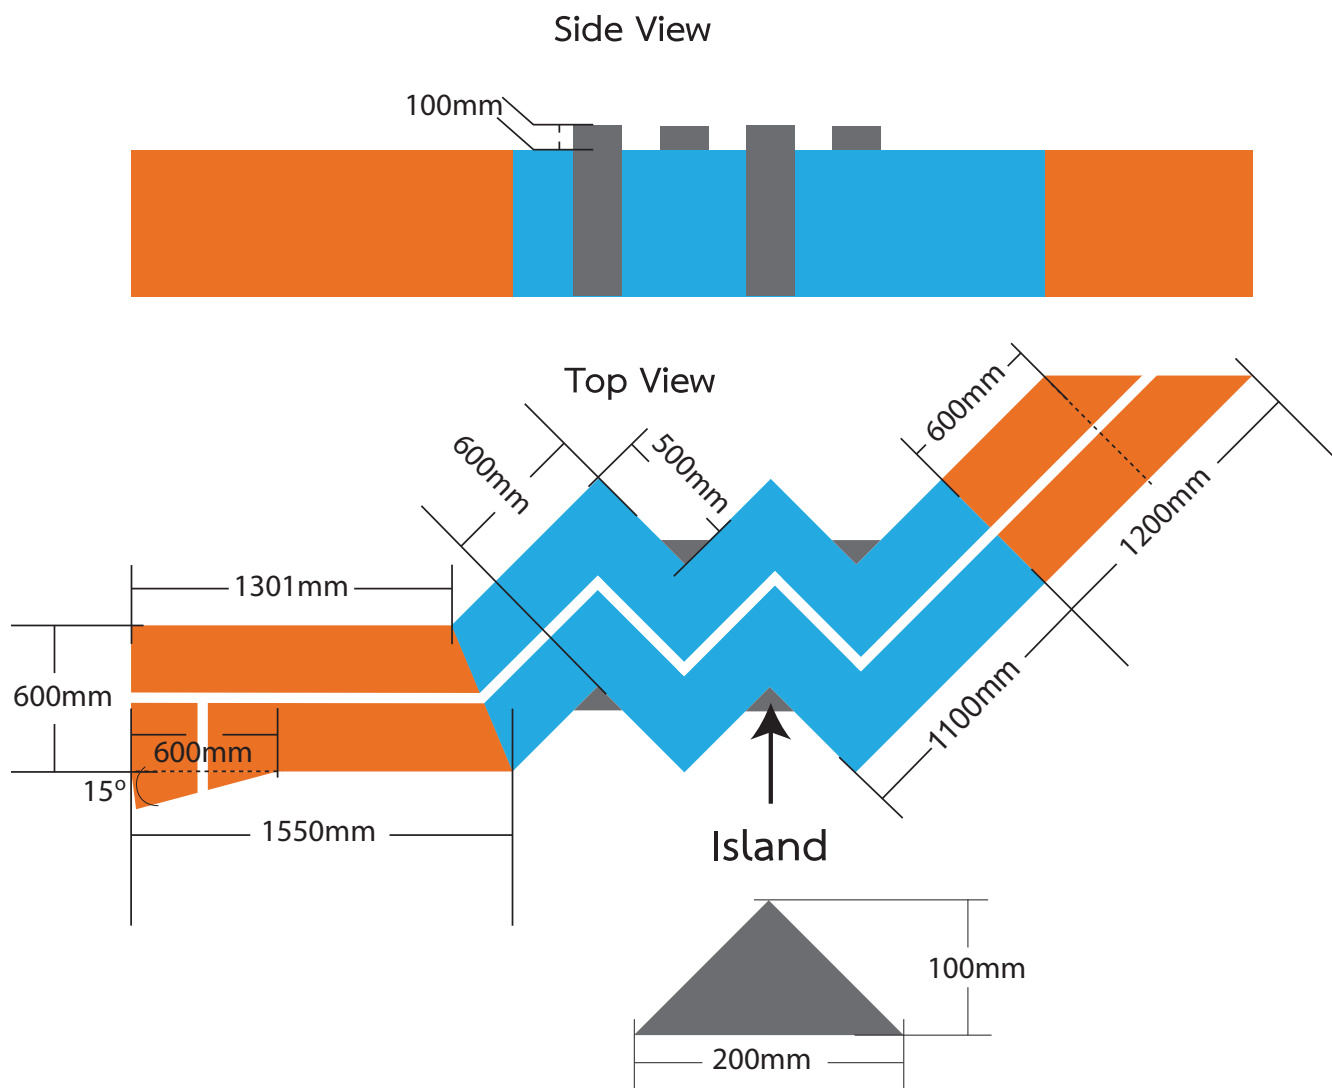

Figure 3: River
10.3.4.1 Islands locating at the inner corners near River to obstruct straight motion from Hill 3 to Highland of Eco Robot. Each Island is an isosceles triangular prism with the triangular base of 200 mm, the triangular height of 100 mm. The prism height is up to 100 mm from the surface of River. (Figures 3)